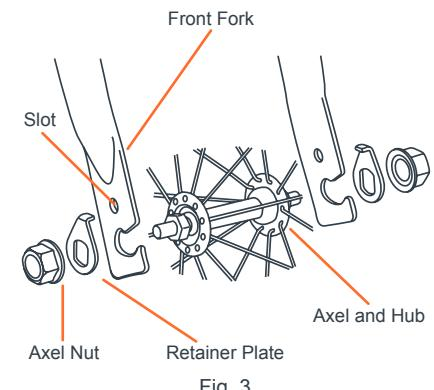

Fig. 3
3) • Slide the retainer plates onto the front wheel. Be sure that the raised lip is pointing toward the fork and insert it into the slot on the fork. The tab on the retainer plate must be lined up with the slot before tightening the wheel (Fig. 3).